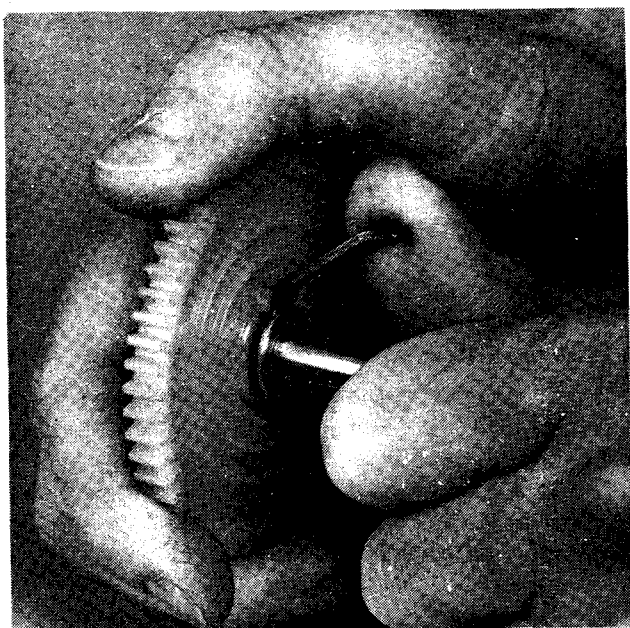

Figure 2. Checking For Loose Electrode
9. Inspect each gear for a loose electrode by grasping the gear firmly in one hand and alternately exerting clockwise and counterclockwise force against the electrode with maximum hand pressure. This should be done in a manner that would attempt to pivot the electrode around the axle (see figure 2). If any movement between the electrode and gear is detected, the gear must be discarded and replaced with a serviceable gear.